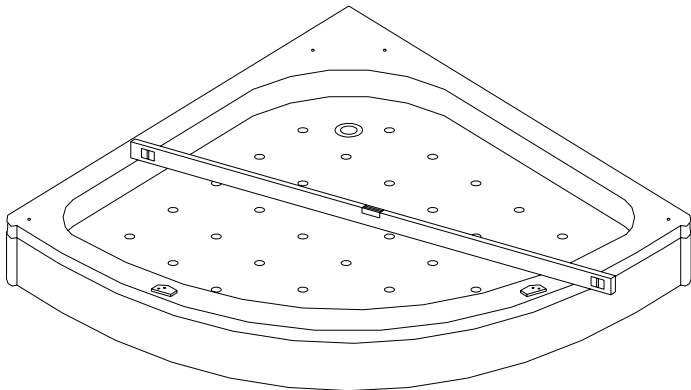

fig.3
2、 Leveling-----Put a level gauge on the basin (as fig. 3 show), measure the basin whether it is level. If not, please loosen the locknut of the fang bolt, level the basin by adjusting the plastic-covered foot (namely the air of the level gauge in the